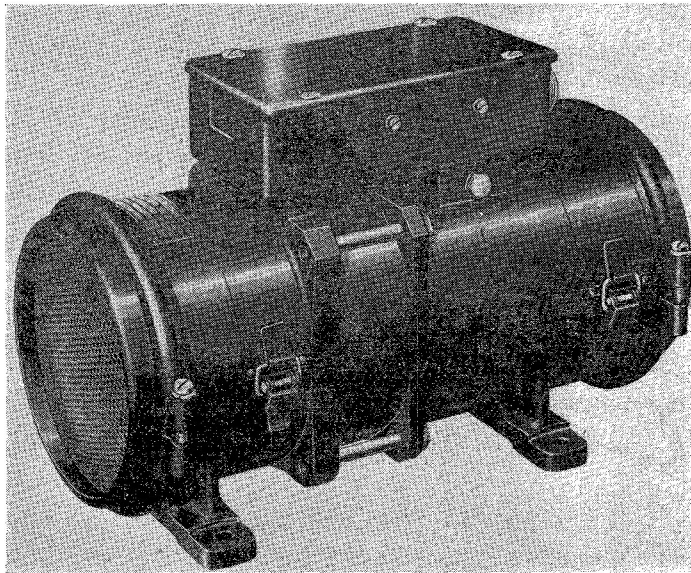
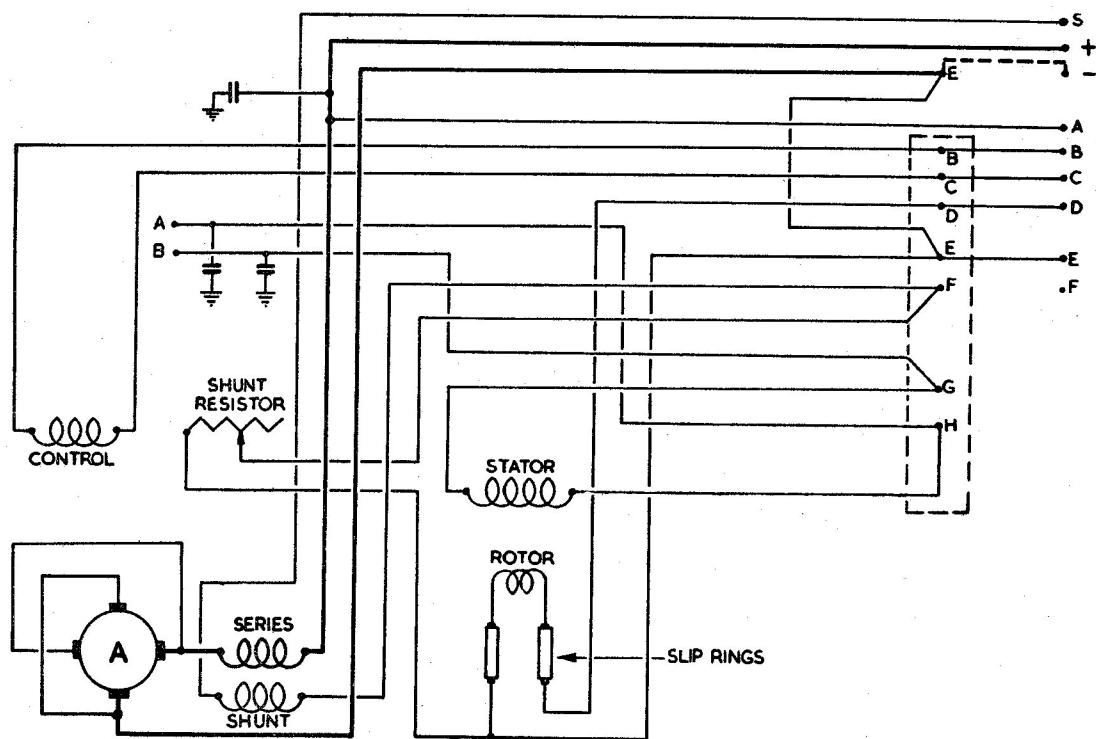

Fig. 1. General view of Type 112 inverter
Fig. 2. Diagram of internal connections
1. The inverter, Type 112 (Rotax S3302) is generally similar in construction to that described in the main chapter. A general view is given in fig. 1, and the internal connections are shown in fig. 2. When used in conjunction with a control panel, Type 26 (Rotax U1504), it will give an output of 115-volts, 400 c/s, single-phase a.c. from a 25-29 volt d.c. input, supplying 200W at a lagging power factor of 0.8. It is used with a starting switch, Type 1A, No. 5 (Rotax U2005/1), and must not be started up on load.